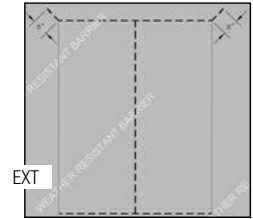

FIG. 2
- Make an "I-Cut" in the weather-resistant barrier (WRB). Begin with a horizontal cut along the bottom and the top of the rough opening. Then make a vertical cut in the center from top to bottom. (Fig. 2)
- From the exterior, make two diagonal cuts at the top of the "I-Cut" as shown to form a flap. (Fig. 2)